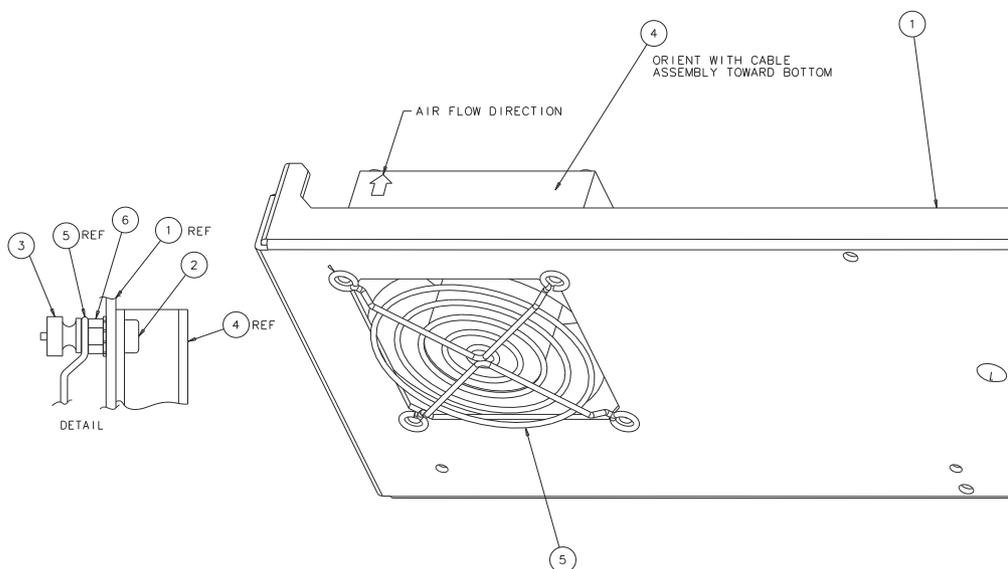

Figure 6-8. Fan Assembly Removal
3. Remove the four fan guard locking nuts (3). Refer to Figure 6-8, “Fan Assembly Removal” on page 6-14.
4. Remove the fan guard (5) from the rear panel (1) of the 3738A Test Set.
5. Remove the four nuts (5) and four screws (2).
6. Remove the fan assembly (4) from the 3738A Test Set.